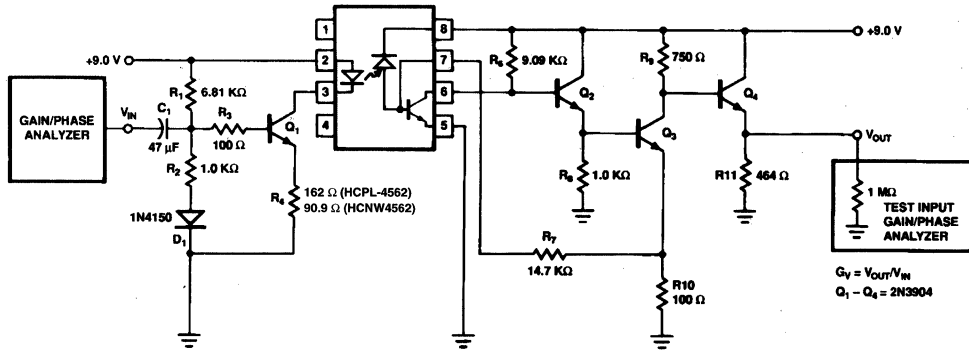

Figure 1. Gain and Bandwidth Test Circuit.
- When used in the circuit of Figure 1 or Figure 4; $G_V = V_{\text{OUT}}/V_{\text{IN}}$; $I_{\text{FQ}} = 6$ mA (HCPL-4562), $I_{\text{FQ}} = 10$ mA (HCNW4562).